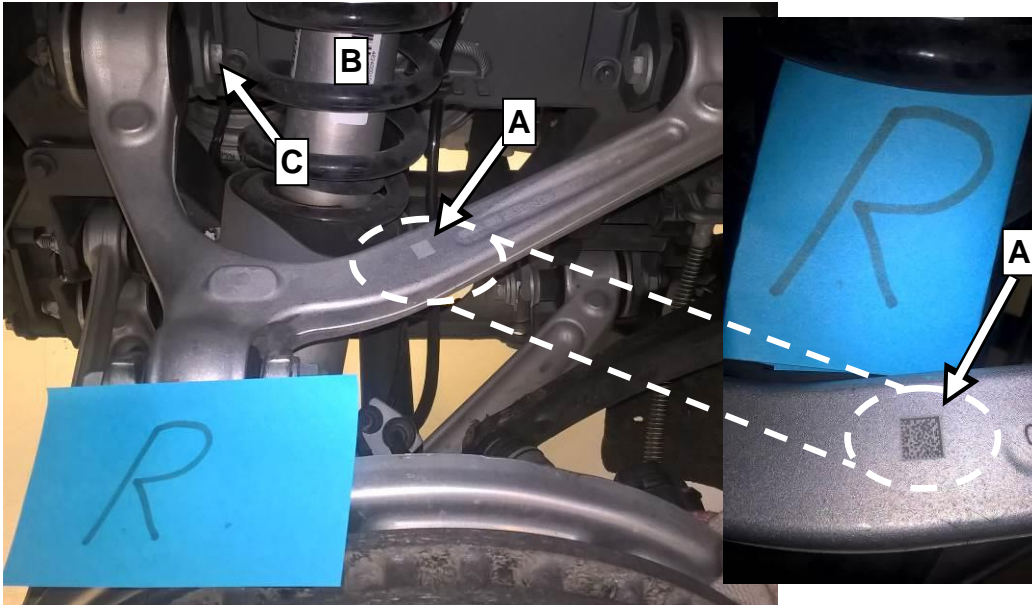

Figure 1
2. Take a picture of the QR code sticker (A, Figure 1) on the upper rear axle control arms:
- Refer to Figure 1 for example of photograph of right rear upper control arm.